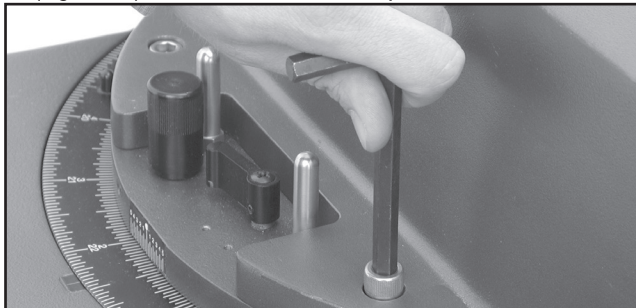

Fig. 33: Bolt the fork to the drive base.
- Bolt the fork to the drive base using the four 3/8"-16x3/4" long bolts (Fig. 33). Using the supplied hex key, tighten to a firm feel only.